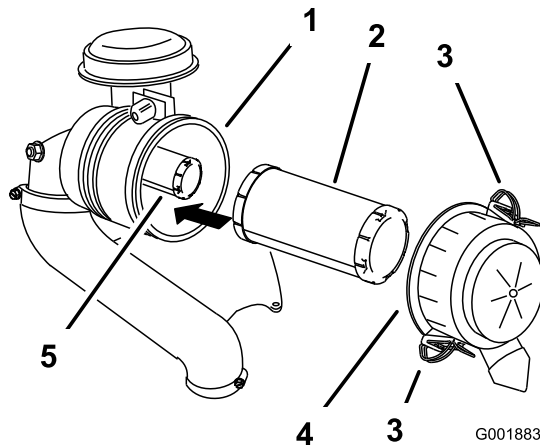

Figure 50
3. Release the latches on the air cleaner and pull the air-cleaner cover off the air-cleaner body (Figure 50).
5. Gently slide the primary filter out of the air-cleaner body (Figure 50).
2. If you are replacing the inner filter, carefully slide it into the filter body (Figure 50).
3. Carefully slide the primary filter over the safety filter (Figure 50).
4. Install the air-cleaner cover and secure the latches (Figure 50).